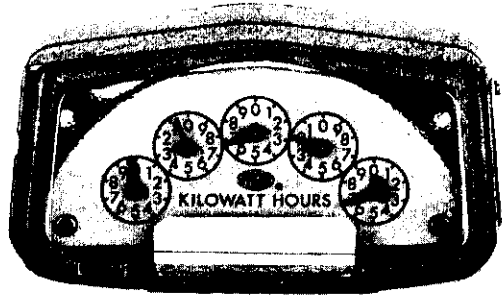

FIG. 1
- Fig. 1. Straight 5-dial x 1 register, driven by a watthour meter that requires a 5-dial x 1 register.